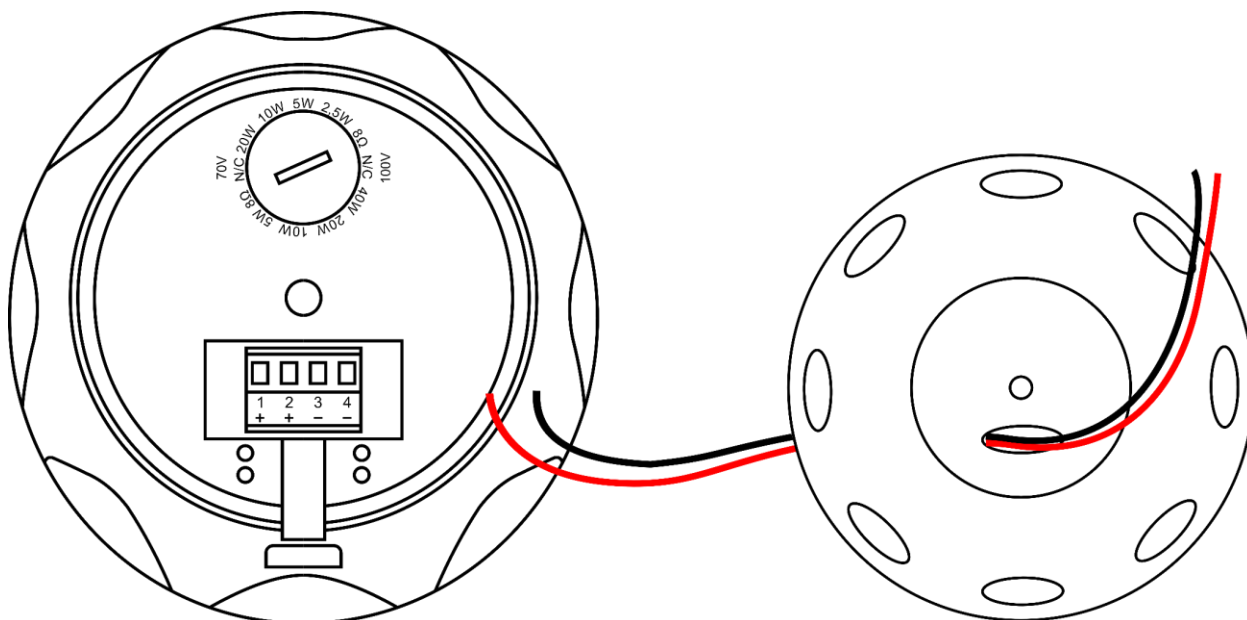

Fig. 06
01) Put the speaker cables through the opening in the **speaker cover (02)** (Fig. 06).